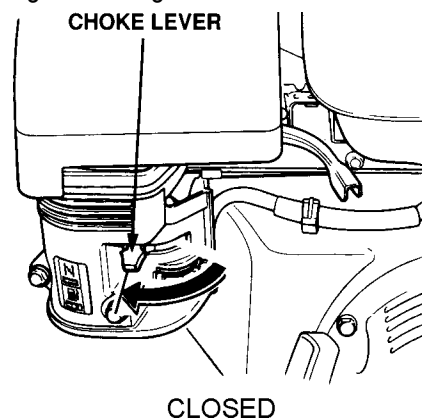

Figure 10. Engine Choke Lever (Open)
3. Place the **choke lever** (Figure 10) in the **CLOSED** position if starting a **cold engine**.